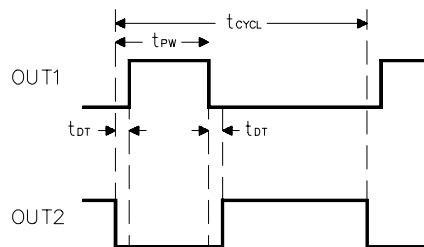
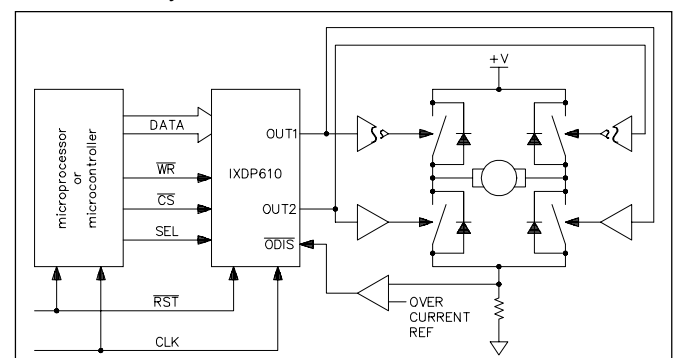

Fig. 2 PWM Cycle Time and Dead-Time Definition
Fig. 3 IXDP610 to DC Servo Motor Full Bridge Block Diagram
Because the IXDP610 is a digital IC, and is programmable, it is possible to tailor the dead-time period (defined as t_{DT} in Fig. 2). IXDP610's programmable dead-time feature is difficult to duplicate in the equivalent analog system. The control of a switching bridge usually involves a process of alternating the "on-time" of two power switches connected in series between a high-voltage and a low-voltage. For example, the H-bridge of Fig. 3 can be operated by turning the upper left and lower right transistors on and leaving the two remaining transistors off, during the first half of the PWM cycle. In the second half of the cycle, the upper right and lower left transistors are on and
Dead-time counter bits - these three bits determine the dead-time period, as defined by Fig. 2. Dead-time is that period of time when both OUT1 and OUT2 are low. Any binary number from 000 through 111 is valid. Thus, eight different dead-time periods can be programmed. DT0 is the least significant bit and DT2 is the most significant bit. A 000 binary means no dead-time and a 111 means maximum dead-time. Each dead-time count corresponds to two CLOCK periods. For instance, if a binary three (3) is programmed into the dead-time bits, the dead-time will be six external CLOCK cycles long.
In a typical PWM cycle (refer to Fig. 2) two dead-time periods will occur. One follows the turnoff of OUT2. The dead-time counter is triggered by an output turning off. During a dead-time period, both outputs are guaranteed to be off (no dead-time periods occur during 0 % and 100 % duty-cycle states). The dead-
time period overlaps the on-time of an output, therefore, it shortens the on-time without affecting the base PWM cycle time. A dead-time period is only inserted if an output changes from high to low (on to off). Thus, if a PWM duty cycle is chosen such that an output would be on for a period of time equal to or less than one dead-time period, the switch associated with that output will not be turned on during the PWM cycle. In this special case, one will observe only dead-time period per PWM cycle time, rather than the two dead-time periods shown in Fig. 2.
The Pulse Width number that is written to the Pulse Width latch represents the high time of OUT1 (the low time of OUT2). The Dead-time Counter decreases the on-time (output high) of an output by one dead-time period (t_{DT}). See Fig. 2 and the description of the dead-time bits in the Control latch to determine the duration of one dead-time period.
"PWM cycle time" is t_{CYCLE} in Fig. 2.